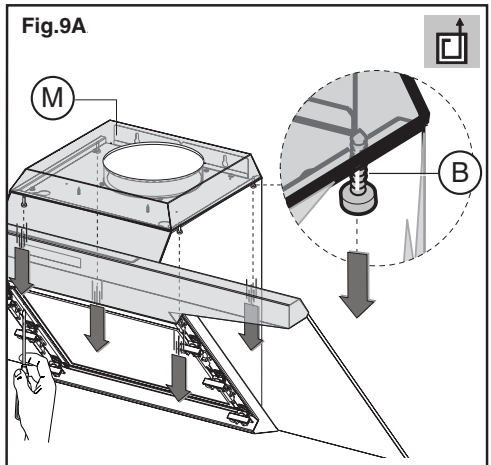

Fig.9A
If the appliance has a lid, remove it by removing the 4 screws **B** as shown in Fig.9A.
- Remove the 4 screws **B** as shown in (Fig.9A).
- Fix the lid once again by using the 4 screws previously removed in (Fig.9A).